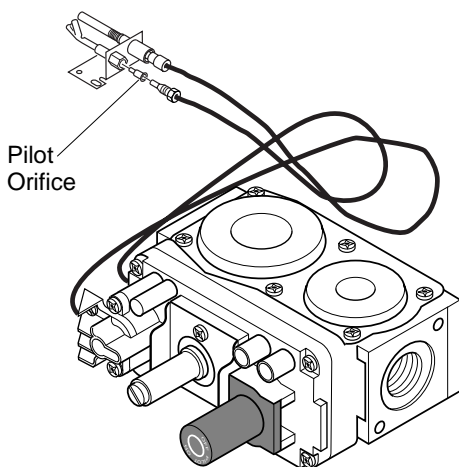

Figure 18 - Installing Propane/LP Pilot Orifice
1. Gently loosen and remove the pilot line connection from the bracket (see Figure 18).
2. Replace the orifice (see Figure 18) with the propane/LP pilot orifice with the red stripe.